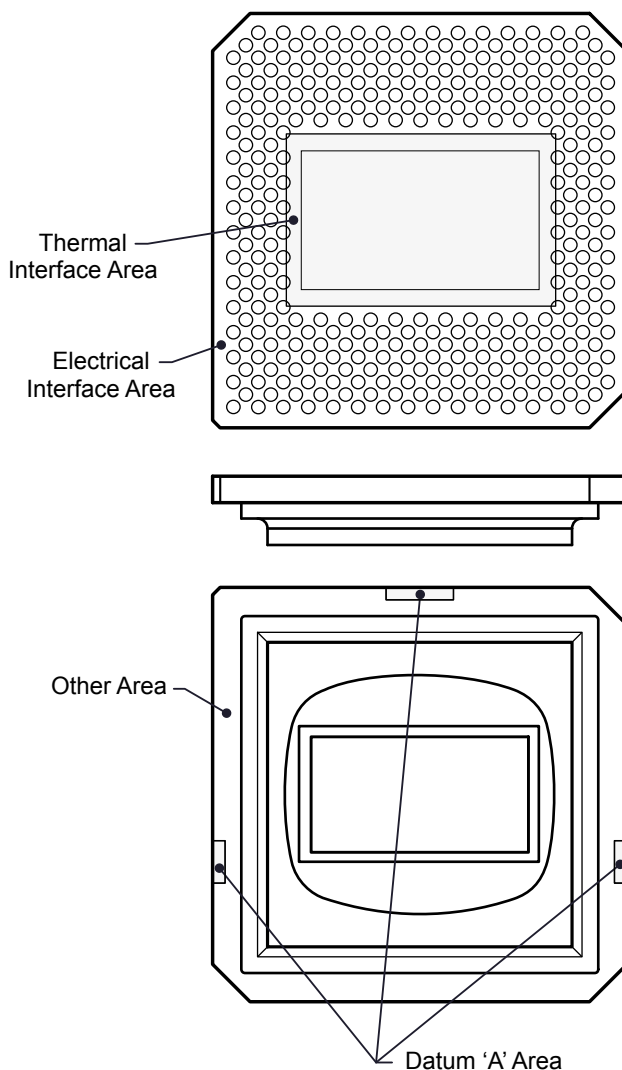

Figure 5-13. System Mounting Interface Loads
- (1) Combined loads of the thermal and electrical interface areas in excess of the Datum A load shall be evenly distributed outside the Datum A area (1334+200 – Datum A), or the combined loads of the thermal and electrical areas reduced.
- (2) Uniformly distributed within area shown in Figure 5-13.